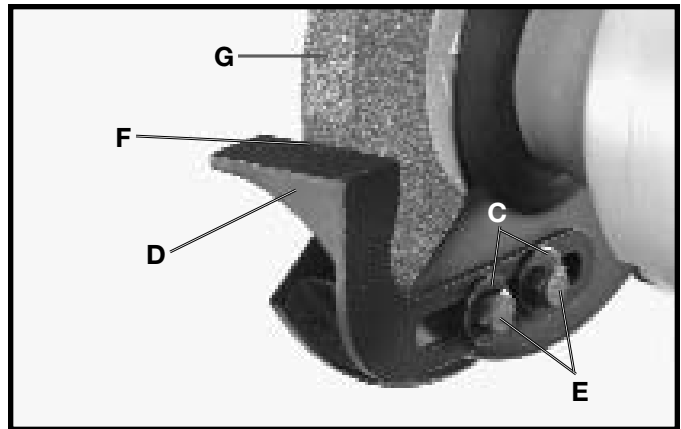

Fig. 3A
2. Assemble the remaining flat surfaced tool rest (D) Fig. 3A, to the inside of the left wheel guard in the same manner using two 5/16-18x1/2" hex head screws (E), and 3/4" flat washers (C).
3. Each tool rest is adjustable so that the edge (F) Fig. 3A, of the tool rest can be positioned as close to the grinding wheel (G) as possible giving maximum support to the piece that is being ground. A distance of 1/8" or less between the grinding wheel (G) and the edge (F) of the tool rest should always be maintained. As the grinding wheel wears down to a smaller diameter, re-adjust the tool rest closer to the wheel. The tool rest should be adjusted so it is set a little below the center of the wheel. This is the most practical and safest position for general work. Free-hand grinding without the use of the tool rest should always be done on the lower quarter of the wheel.